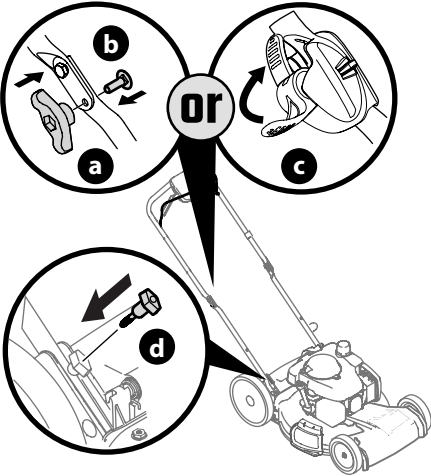

Figure 8
4. Reattach knobs or wing nuts (a) and carriage bolts (b) removed in STEP 2 into lower holes of the handle or lock the EZ-fold handle release levers (c) (Figure 8).
5. Using the T-bolts (d) removed in STEP 2, secure the lower handle to the handle brackets (Figure 8) and tighten securely.